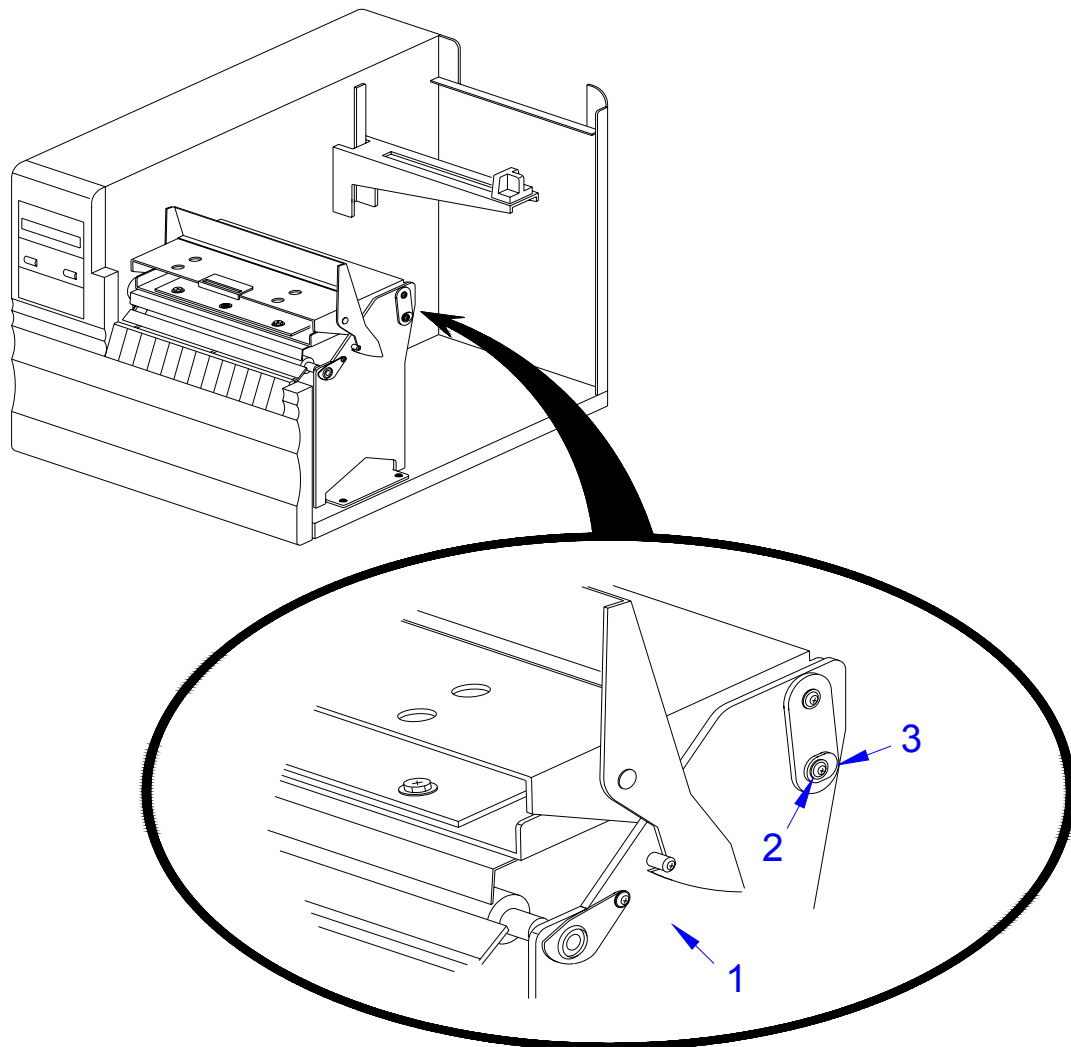

Figure 6-5, Print Head Balance Adjustment
- 1 Open the right housing cover to access the print assembly (1, Figure 6-5).
- 3 Slightly loosen set screw (2) and slightly adjust eccentric nut (3) until the negative characteristics are corrected.
- 4 Hold eccentric nut (3) in position while retightening set screw (2).
- 5 Close the right housing cover to conceal print assembly (1).